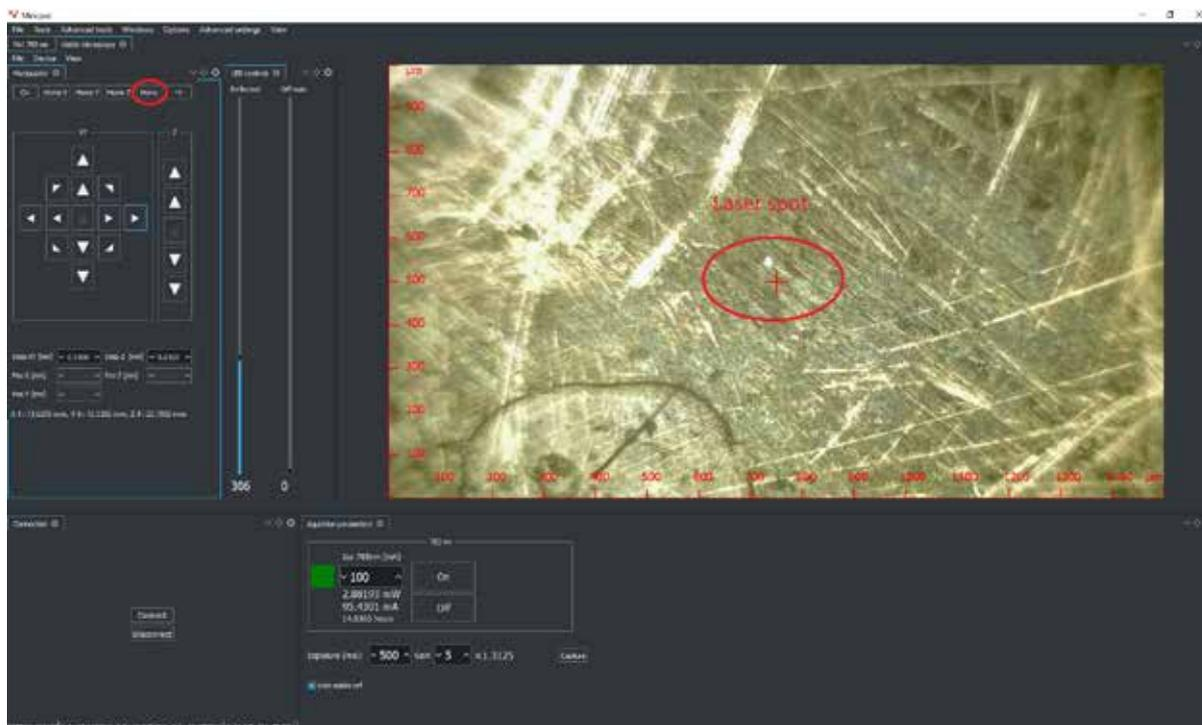

Figure 12. miniRaman microscope software interface; calibration of 3D stage
Open Menu/Tools/Visible microscopy and press Home bottom (see Figure 12).
**4. Correcting the measuring position** in case of a slight offset of the point of incidence of the laser beam, i.e. offset with regard to the cross-hairs center (If this is not the case, skip this step.), see Figure 12.
**5. Positioning the sample on the microscope stage and visualizing the sample** (focusing, adjusting LED brightness, contrast etc.), see Figure 12.